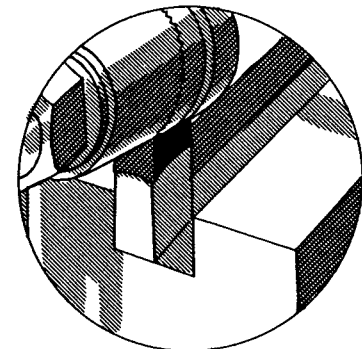

FIG. 465
20. Start the machine; then carefully feed the work to the right until the tool has cut to the opposite corner of the slot (Fig. 465).